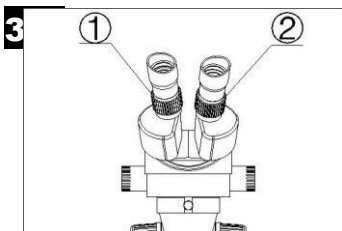

Fig.3
- 5) Observe the specimen through the right eyepiece and make the image clear by turning the right dioptre adjusting ring ②. (Fig.3)
- 6) Redo the step (1), (3), (4) and (5) till the right adjusting ring is more precise.
- 7) Do step (4) and make the image clear which is observed through the left eyepiece turning the left dioptre adjusting ring ①. (fig.3)